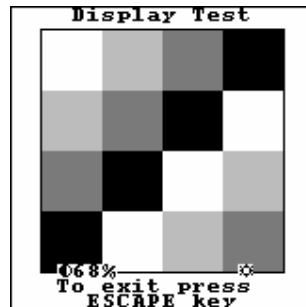

Fig. 61
- Display test – visually shows different brightness levels and display's resolution (Fig. 61).